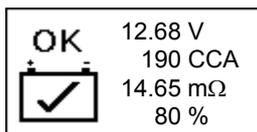

Fig. 58
- Select View Test Results:  by pressing ► key and then ⏪ key. The stored results will show as examples (Figs. 58,59,60,61 & 62) below: